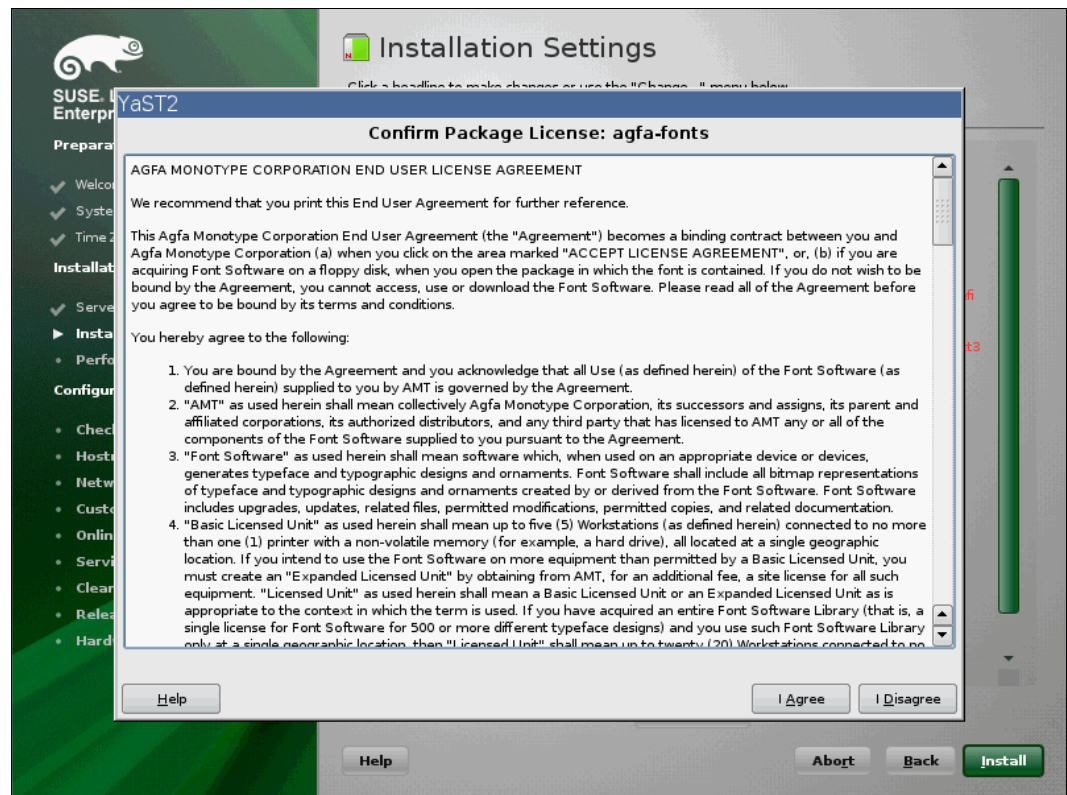

Figure 9-47 Confirm the fonts license
14. In the additional windows, accept the license of the fonts (Figure 9-47) by clicking **I agree**.